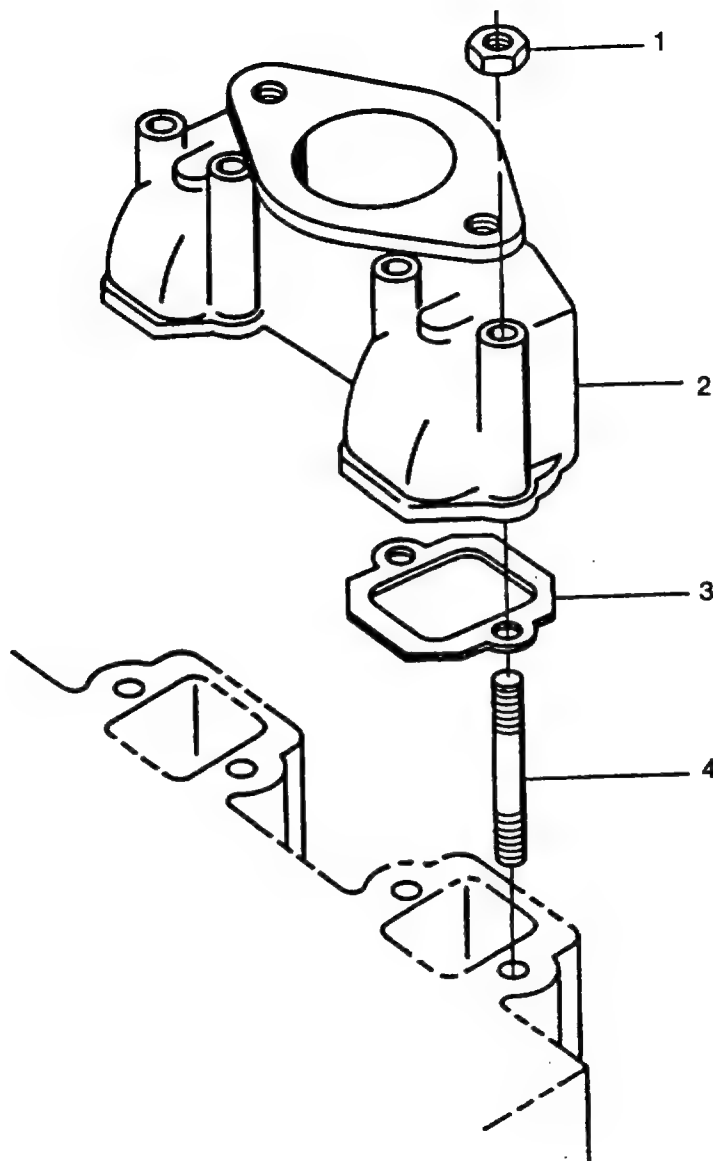

FIGURE 3-3. Exhaust Manifold
- Remove four nuts (1 FIGURE 3-3), exhaust manifold (2), and two gaskets (3) from studs (4) . Discard gaskets (3).
- If damaged, remove four studs (4).
- c. If removed, install four studs (4 **FIGURE 3-3**) in cylinder head.
- d. Install two new gaskets (3), manifold (2), and four nuts (1). Tighten nuts to 78 in-lbs (8.8 Nm).